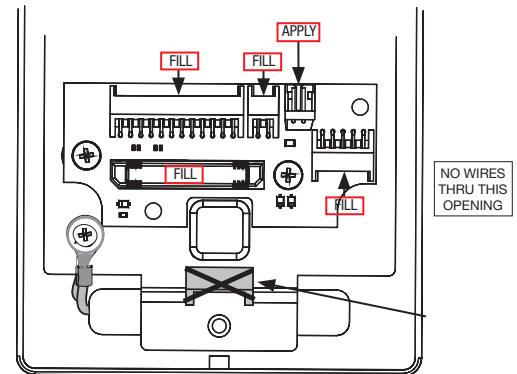
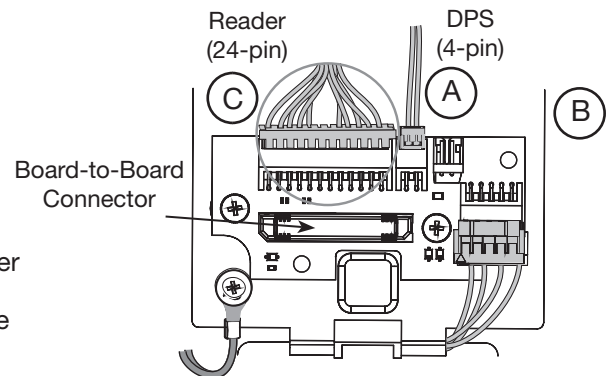

Fig. 16a
Fig. 16b
- Ensure all connector pins and contacts (Fig. 16a) are covered - **do not overfill or over-apply****
IMPORTANT: Do not run wires through bottom hole in plate (Fig. 16a, b) - it will damage wires and the controller connector. Route wires around flange, do not route wires through the flange hole (Fig. 16b).
Secure the following connectors (Fig. 16b, c):
- Secure the mounting assembly while ensuring proper alignment of outside reader and fully tighten the (2) through-bolts on the inside of the door to secure the reader and plate to the door
- Secure the 24-pin card reader connector (Fig. 16b, c).